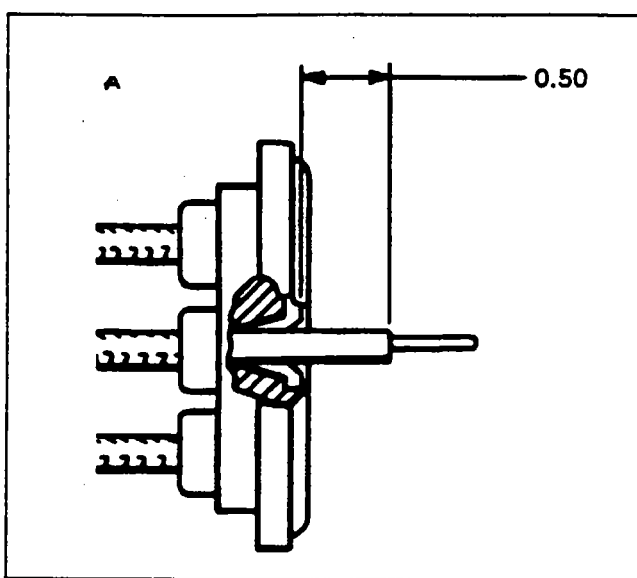

Figure 8-29. Measuring Wire From Top of Ferrule
12. Measure 0.50 inch from tapered ferrule and strip remaining insulation from wire. (Refer to Figure 8-29.)